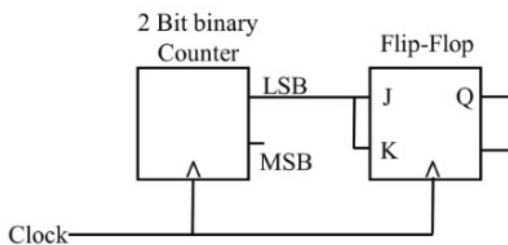

Fig. 5.13: Circuit
13. For the circuit shown in Fig. 5.13, the clock frequency is  $f_0$  and the duty cycle is 25%. For the signal at the Q output of the Flip-Flop, (GATE EC 2022)